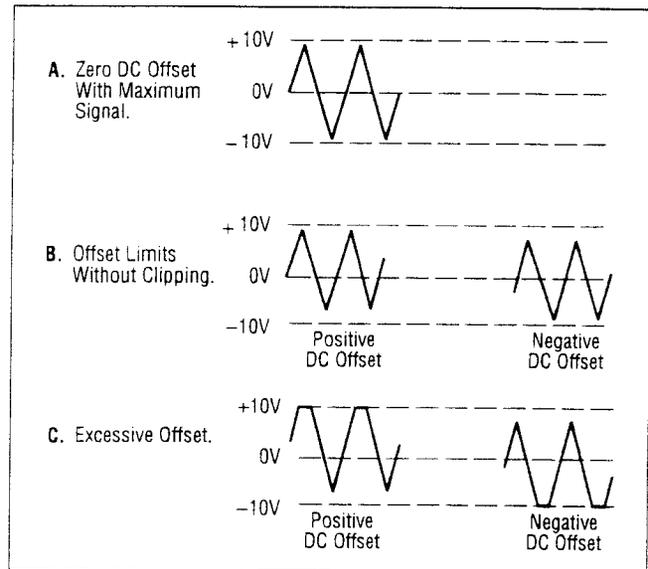

Figure 3. Use of DC OFFSET Control
7. A superimposed DC component can be added to the output signal by engaging the **DC OFFSET** switch (14) to enable operation of the **DC OFFSET** control (5). Rotation of this control adds a positive or negative DC component to the output signal. The DC component introduced is independent of the **OUTPUT LEVEL** control and can be varied by ± 10 volts open circuited or ± 5 volts into 50 Ω . The DC Offset does not affect the **TTL/CMOS** output jack. The effect of DC OFFSET is shown in Fig. 3.
- Remember that the output signal swing of the generator is limited to ± 10 volts open circuited or ± 5 volts into 50Ω , and applies to the combined peak-to-peak signal and DC offset. Clipping occurs slightly above these levels. Fig. 3 illustrates the various operating conditions encountered when using the DC offset. If the desired output signal is large or if a large DC offset is required, an oscilloscope should be used to make sure that the desired signal is obtained without undesirable clipping.